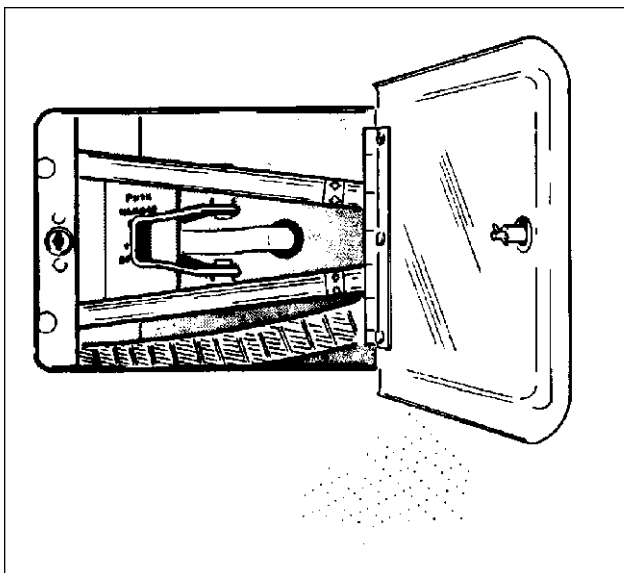
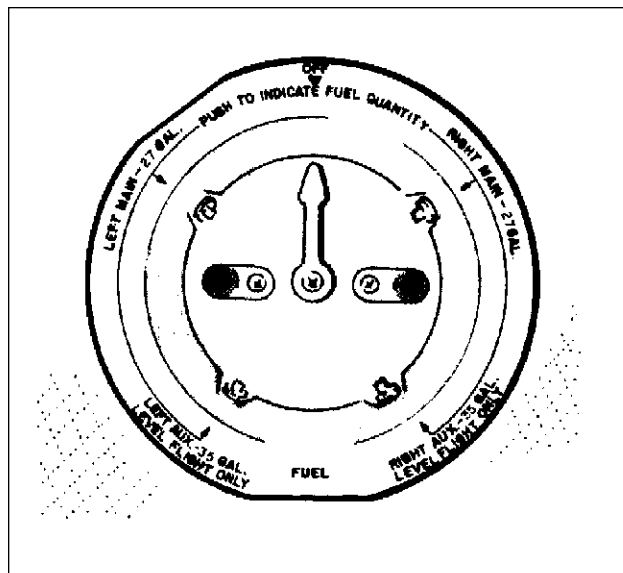

Figure 2-16. Fuel Strainer and Drain
Figure 2-17. Fuel Selector and Drain
- a. On PA-24-180 and PA-24-250 aircraft bearing Serial Nos. 24-1 to 24-2298 inclusive, the fuel strainer, equipped with an easy drain valve is mounted under the right forward section of the fuselage. The fuel strainer drain (Figure 2-16) on PA-24-180 and PA-24-250 aircraft bearing Serial Nos 24-2299 and up and PA-24-260 aircraft is located in the cabin floor just aft of the fuel selector valve and is drained by opening the access door and moving the easy drain valve handle to the aft position. Draining is accomplished within the cockpit. A transparent plastic tube is attached to the drain valve and extends through a hole in the bottom of the fuselage. Flow of the fuel is observed by means of the transparent tube and should cease as observed through tube when the handle is released. On the PA-24-400 (Figure 2-17), the fuel is drained from the cockpit by lifting up the red knob located in the center of the fuel selector. The fuel strainer should be drained regularly to check for water or dirt accumulations.